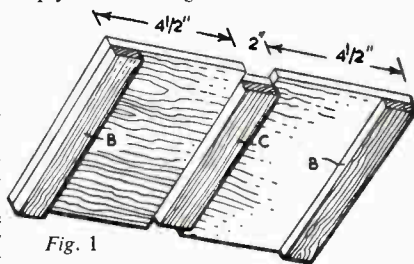

Fig. 1
It will be seen from the diagrams that there are three distinct parts—the base, the cover and the pressure board. The base is shown in Fig. 1 and base com-
the centre batten (C) is shorter than pieces (B). (C) measures  $8\frac{1}{2}$ ins. and pieces (B) are 9ins. long. Glue and screw them under the base as shown in Fig. 1.